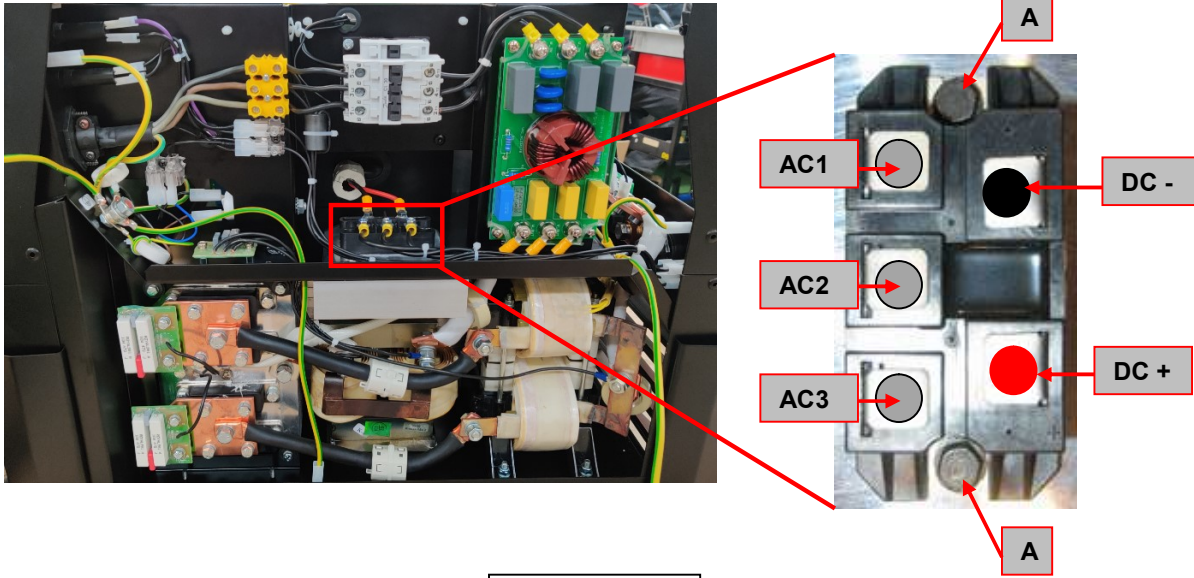

Figure 15
3. Locate the 3 phases input rectifier bridge. See **Figure15**
4. Using the 8mm nut driver label and remove the 3 AC input cables and the 2 output DC+ and DC- cables from the 3 phases input rectifier bridge. See **Figure 15**
5. Using 8mm nut driver remove the 2 screws (**A**) that fix the 3 phases input rectifier bridge to the heat sink. See **Figure 15**